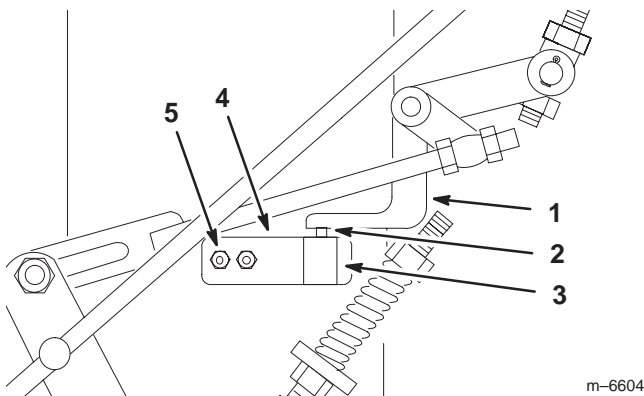

Figure 44
8. Check to make sure the safety switch is depressed and there is an 1/8 to 1/4 inch (3 to 6 mm) space between the actuating tab and the safety switch (Fig. 44).
9. To adjust the switch location, loosen the two neutral bracket screws holding the switch plate to the frame (Fig. 44).
10. Adjust the switch up or down to obtain an 1/8 to 1/4 inch (3 to 6 mm) space (Fig. 44).
11. Tighten the two neutral bracket screws holding the switch plate (Fig. 44).